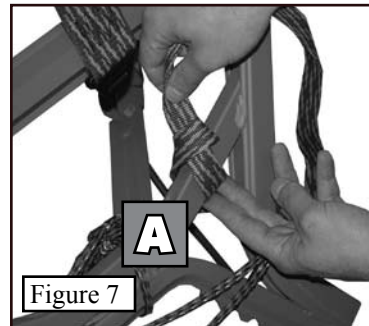

Figure 7
**Step 2.** Place the looped end of the 1" wide strap around the stand tubing (A) and bring the loose end back through the loop as shown in **Figure 7**. Repeat for other side.